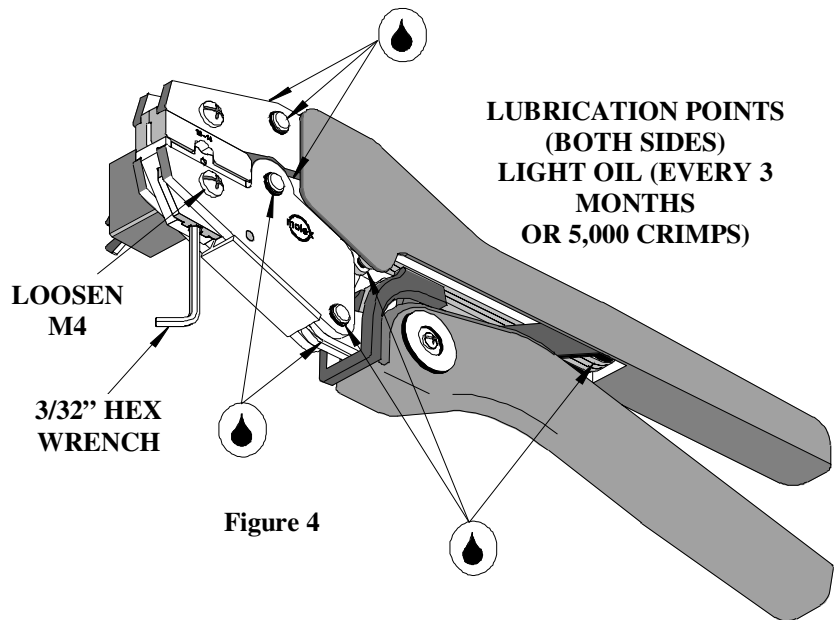

Figure 4
5. If the insulation part of the crimp needs to be adjusted, first loosen the M4 screw on the bottom tool jaw, then insert a 3/32 hex wrench (supplied) into the bottom of the lower die (See Figure 4). A clockwise (CW) rotation decreases insulation crimp while a counter-clockwise (CCW) rotation increases insulation crimp. After adjusting retighten the M4 screw.
3. Make certain all pins; pivot points and bearing surfaces are protected with a thin coat of high quality machine oil. Do not oil excessively. The 64001-2300 (RHT-8764) was engineered for durability, but like any fine piece of equipment it needs cleaning and lubrication for a maximum service life of trouble-free crimping. A light oil, such as 30 weight automotive oil used at the oil points shown in Figure 4, every 5,000 crimps or 3 months will significantly enhance the tool life and ensure a stable calibration.